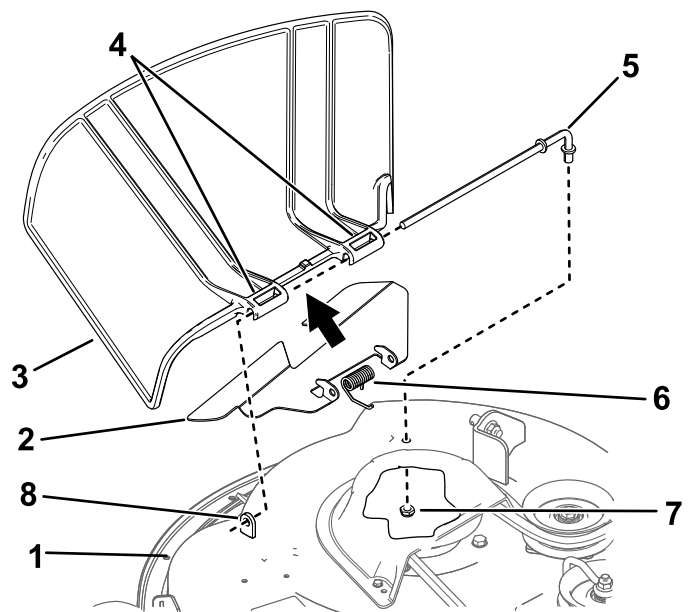

Figure 74
1. Remove the nut (3/8 inch) from the rod under the mower (Figure 74).
2. Slide the rod out of the short stand-off, spring, and grass pivot (Figure 74).
4. Install the new grass deflector (Figure 74).
7. Slide the rod through the second grass-deflector pivot (Figure 74).
9. Secure the rear end of the rod into the mower with a nut (3/8 inch) as shown in Figure 74.